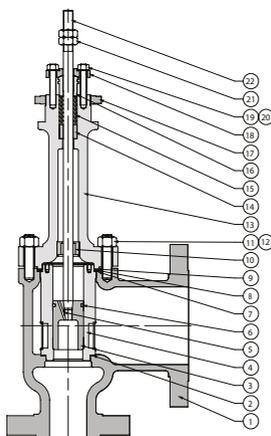

Fig. 2 – 2003 Series
In disassembly procedure description, our reference shall be Figure 2, except when adversely indicated.
- The spiral-wound (8) should be compressed in order to load and seal the seat gasket (2). The spiral wound tightening feature is such that the tightening of one of nuts may loose the adjacent ones. Thus, several tightening are necessary in the mentioned sequence (Figure 2) until the nuts are not moving with the recommended torque.
- The tightening procedure also compresses outer part of body gasket (9) to seal the junction between body (1) and bonnet (13).
5.3.9. Clean the packing box and the internal metallic components carefully. Insert the spacer (14) and packings (15). When inserting packings, do not damage them when they pass by stem (22) threaded part.